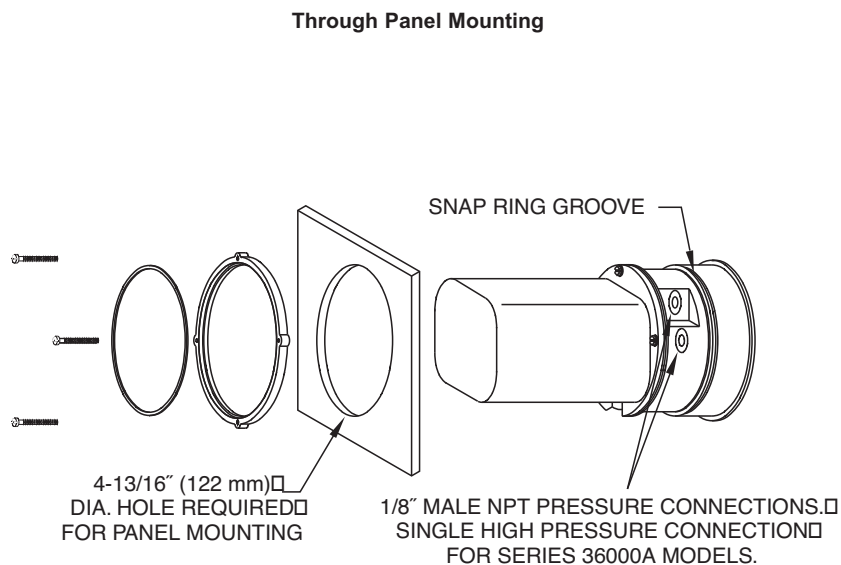
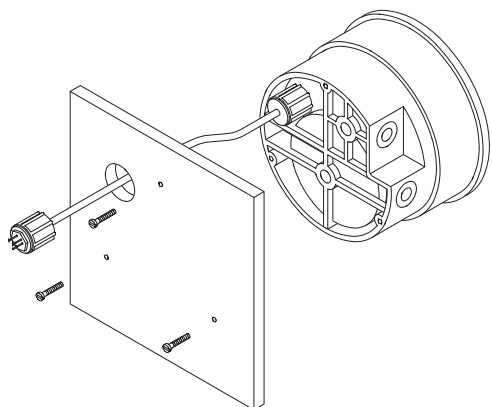
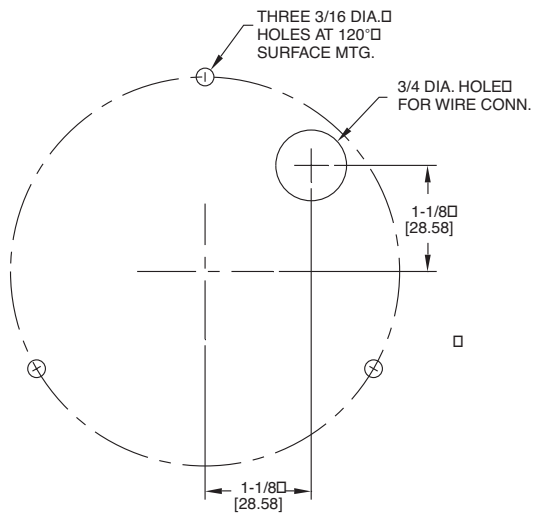

Fig. 2
Fig. 3A
Fig. 3B
Normal mounting is flush or through panel is shown in Fig. 2. Be sure to allow 4-3/8" extra space behind the unit for electrical enclosure removal. Make a single 4-13/16" diameter hole in the panel. Insert the entire Photohelic® Switch/Gage unit from the front, then slip on the mounting ring and snap ring from the rear. Seat the snap ring in its groove, back up the mounting ring against snap ring and tighten the four (4) 2" No. 6-32 clamp screws provided. If behind panel space is critical, the amplifier-relay unit can be mounted remotely. See the Remote-Relay Mounting Instructions for details.
Where it is desirable to mount the amplifier-relay unit separate from the gage-phototransistor unit, the gage may be mounted either as shown in Fig. 2 (except less amplifier-relay portion) or surface mounted as shown in Fig. 3A. Use the layout shown in Fig. 3B to locate holes. The complete package cannot be surface mounted.